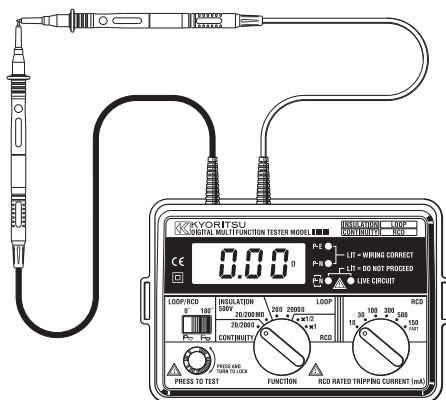

Fig 2
2. Connect the ends of the test leads in use firmly together (see Fig 2) and operate the test button.